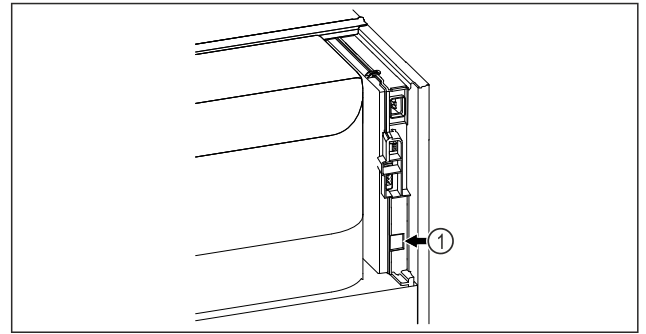

Fig. 129
- SmartModule Fig. 129 (1) is in use.